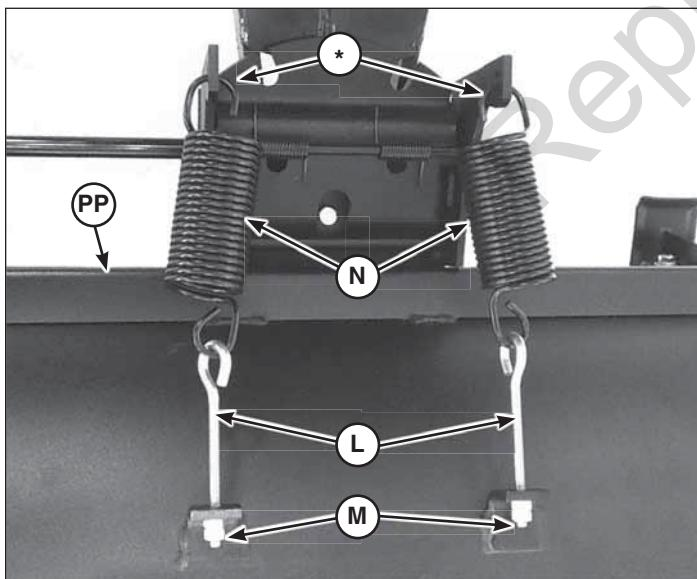

Figure 12
1. Insert threaded end of eyebolt (L, Figure 12) through the lug hole on the blade assembly (PP). Screw on nut (M) just far enough so that it is flush with the end of the eyebolt.
2. Hook the large end of the springs (N) into the pivot frame (\*). Using a pliers, stretch the springs to hook the opposite ends to the eyebolts.
4. Holding the first nut with a wrench, add a second nut (M) to each eyebolt, and tighten securely against the first nut to act as a jam nut.